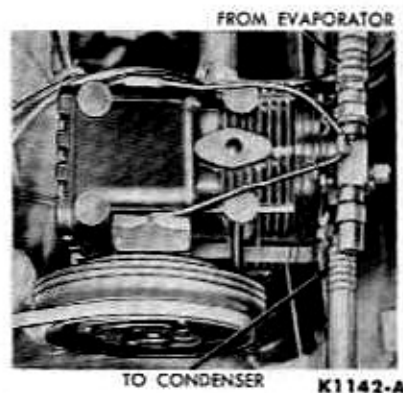

FIG. 53—Compressor Hose Connections
11. Install the service valves on the compressor (Fig. 53), using new gaskets. Leak test the compressor, then evacuate it and connect it back into the system.